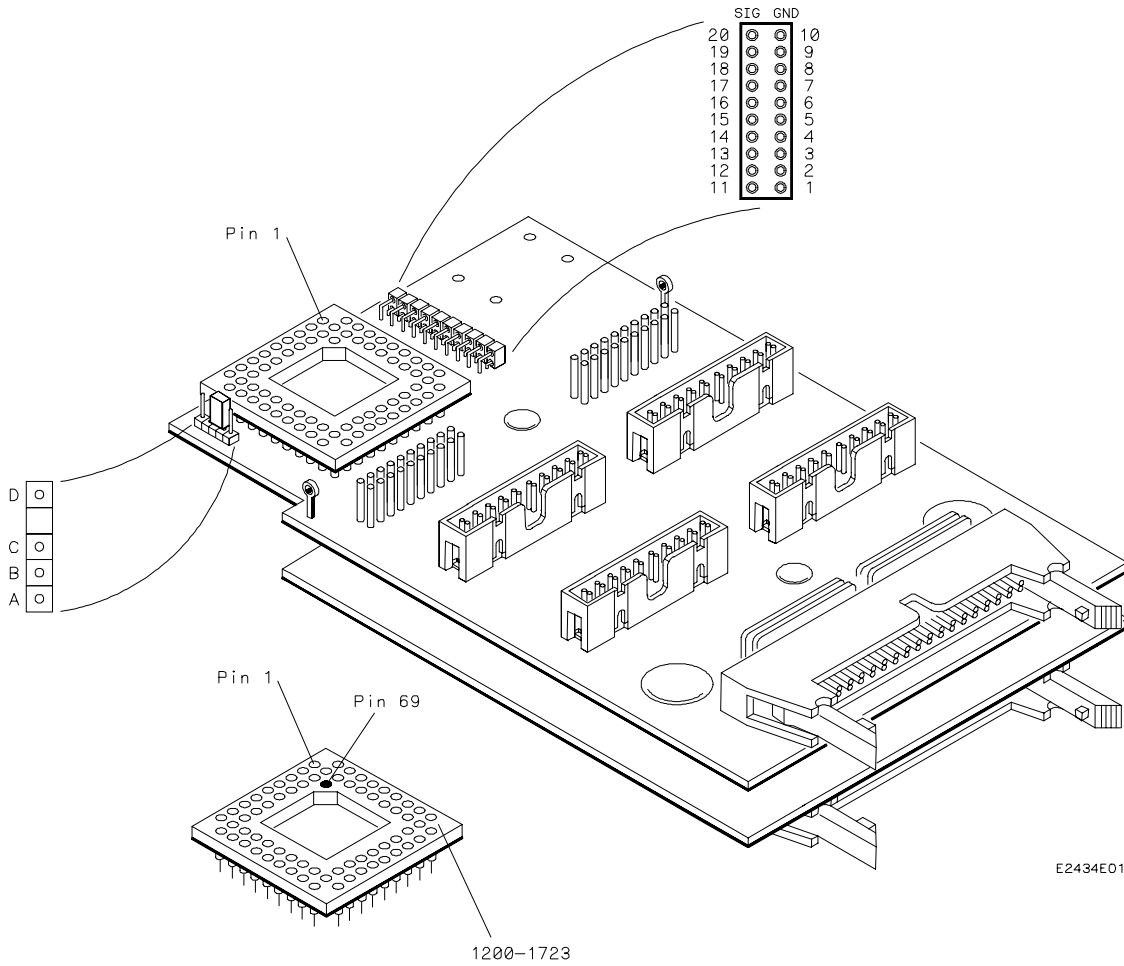

Figure 1-1. Preprocessor Interface
The jumper pins A, B, and C are included for possible future upgrades to the HP E2434A. The jumper block routes the synthesized 80C186EA/188EA PLCC DT/R signal from pin D of the jumper block to the logic analyzer. The jumper must remain across pins B and C (see figure 1-1).
Serious damage to the target system or preprocessor interface can result from incorrect connection. Note the position of pin 1 (figure 1-1) on the preprocessor interface connector and the target system socket prior to making connections. Also, take care to align the connectors so that all pins are making contact.
2. Plug the preprocessor interface into the microprocessor socket on the target system, noting the position of pin 1 (see figure 1-1). There is a notch on the socket indicating pin 1.
2. Plug the preprocessor interface into the PGA Transition Socket on the adapter, noting the position of pin 1 (see figure 1-1). There is a notch on the socket indicating pin 1.